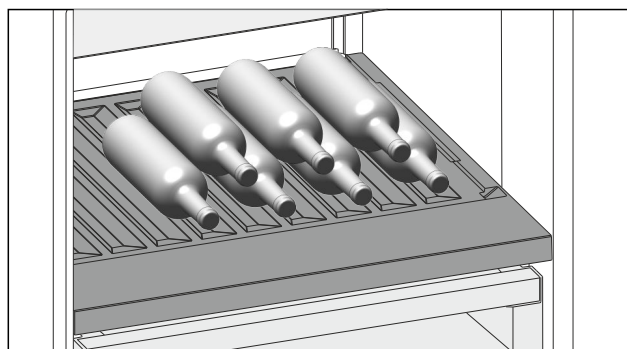

Fig. 125
- Place bottles in the back row with their bases against the back wall. (see Fig. 125)